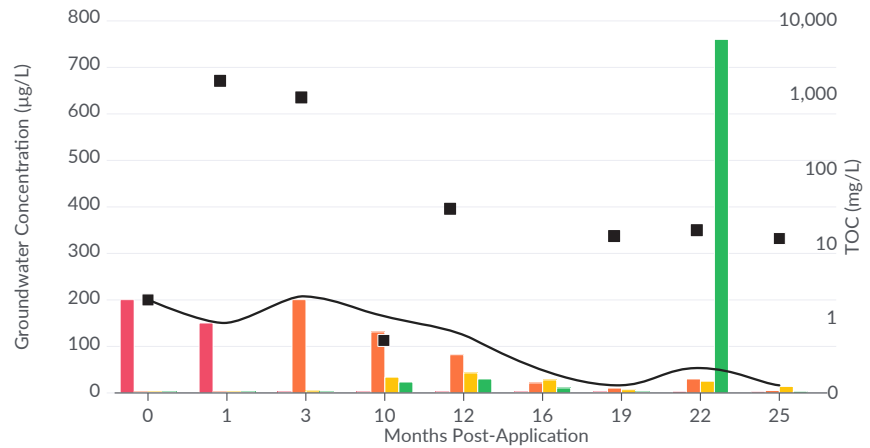

Figure 10
- Molar fraction percentage analysis shows increasing ethene relative to the chlorinated ethenes beginning at 10 months and peaking at 22 months when it was detected at its highest concentration of 760 µg/L Figure 10.